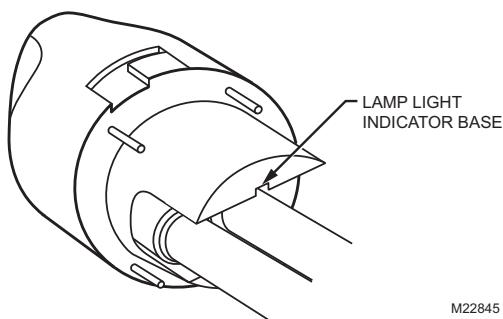

Fig. 12. Wipe lamp light indicator base.
5. Also wipe away any dust that may have collected between the lamp light indicator on the base and the black lamp base. See. Fig. 12.